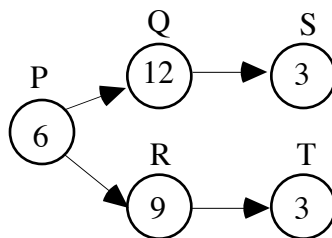

Figure 12: A network diagram
The **critical path** is the longest set of prerequisite-linked tasks in a project. The length of the critical path is the minimum time required for the project. When a project is represented in a network diagram, the critical path is the longest path in the diagram. In the network diagram shown in Figure 12, for example, the critical path P–Q–S is 21 units long.
- e. In Figure 12, what is indicated by the lack of arrows between Q and T ?